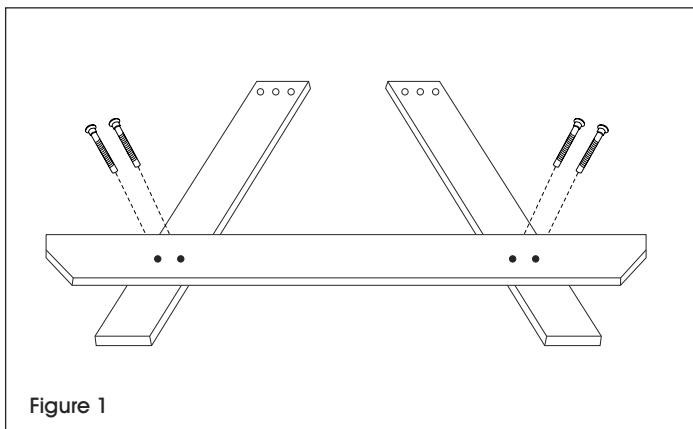

Figure 1
2. Place the pre-drilled seat cross-member on top of the pre-drilled table legs. Position the legs so the holes are aligned and the tops of the legs are level and straight. (See Figure 1)